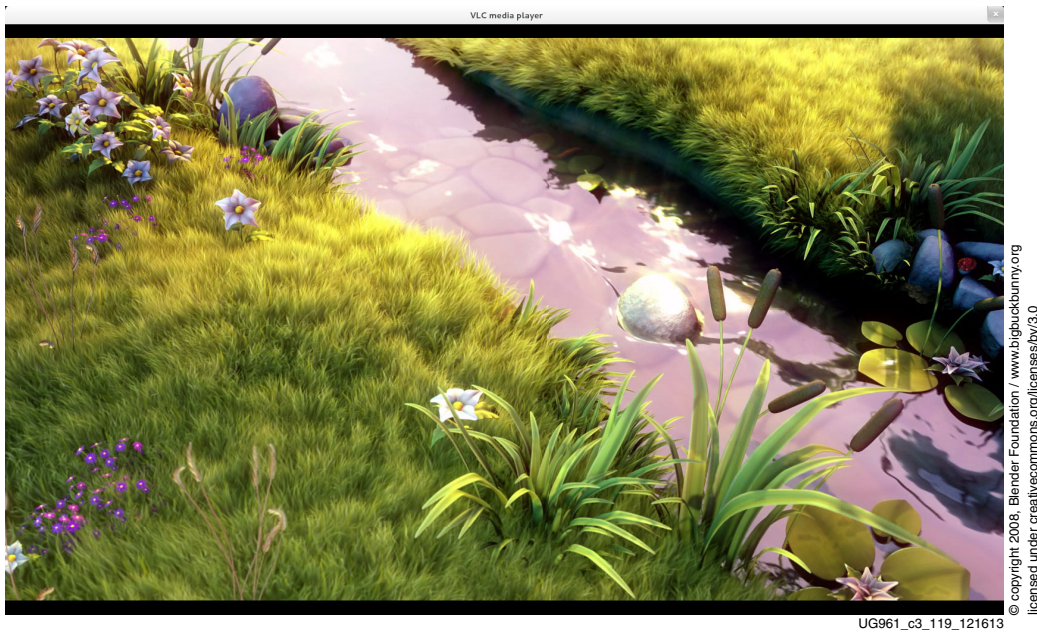
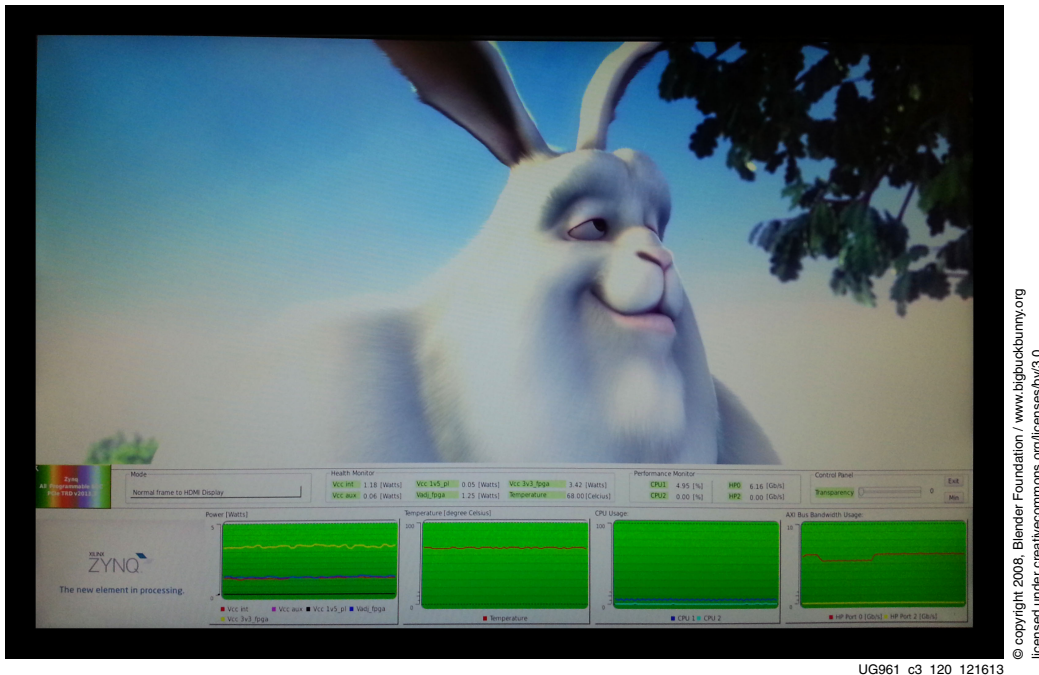

Figure 3-19: Video running on Host
Figure 3-20: Video running on HDMI Monitor with SOBEL set to None
Note: The video file used in this example and shown in Figure 3-19, Figure 3-20, and Figure 3-21 is Big Buck Bunny, available for free download from www.bigbuckbunny.org.
The video being transmitted to the Zynq-7000 SOC is displayed on the host machine in its original form through a vlc player window as shown in Figure 3-19.
- When the filter option is set to **None**, video data from PCIe host system is sent directly to the display without being processed by the edge-detection sobel filter. The transmitted video appears on the display as shown in Figure 3-20.